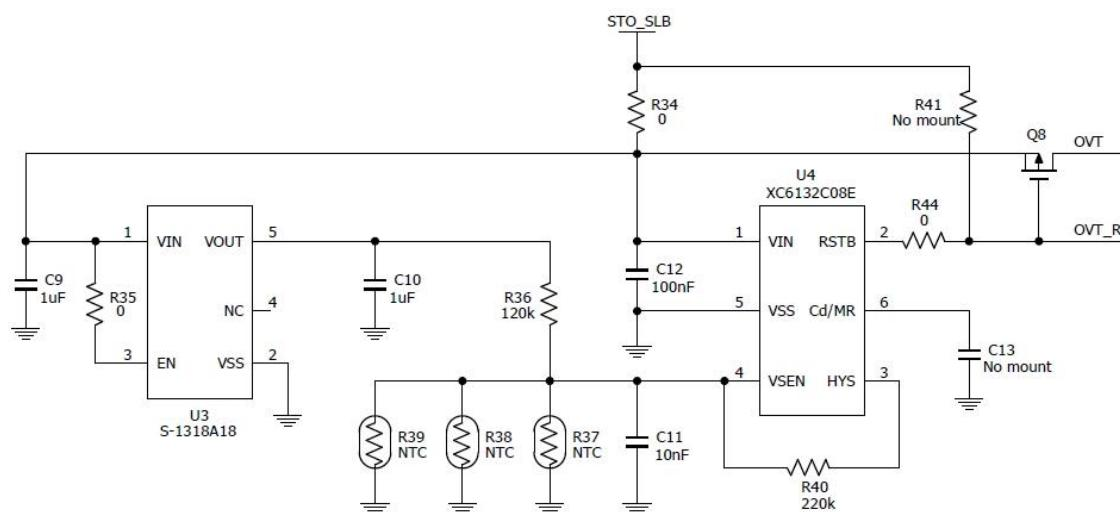

Fig. 4-3-5a Thermal protection circuit
- ◆ This board is equipped with a circuit that stops the circuit operation at high temperatures (approximately over 60 °C) to protect the SLB series, and that has the configuration shown in Fig. 4-3-5a.
- ◇ Thermal protection starts up when the VSEN terminal of U4 in Fig. 4-3-5a falls below the threshold voltage (0.8V). “OVT” in the figure disables the PMIC charge operation and DC/DC converters. Also “OVT\_R” turns off the MOSFET switch of the SLB direct output to shut off the output. For the DC/DC converter circuit, note that if you set SW9 to always ON, thermal shut down function on the Fig.4-3-5a will be disabled in the circuit.